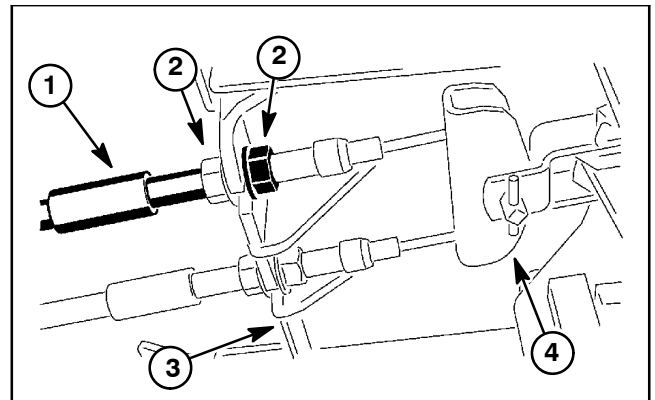
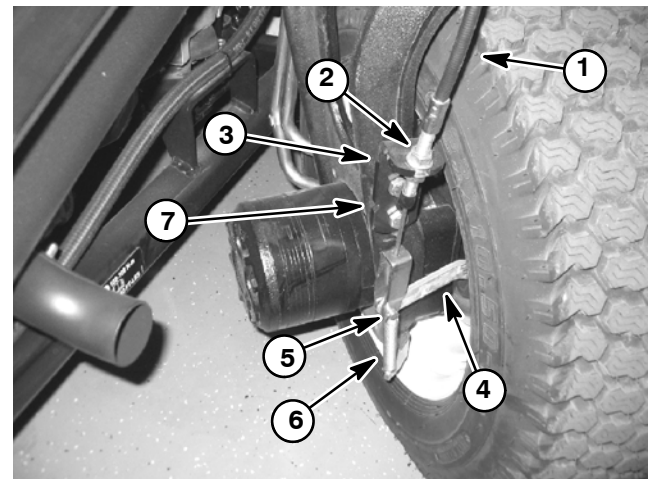

Figure 3
Figure 4
**NOTE:** Adjustments to brake cables can be performed at two (2) places on the machine: under the footrest platform near the brake pedal assembly (Fig. 3) and also at the rear wheel (Fig. 4). Final brake cable adjustment is easiest to complete at rear wheel end of cable.
3. After initial cable adjustment, sit in operator seat and apply full foot pressure to brake pedal and release pedal. Repeat this brake application five (5) to seven (7) times.